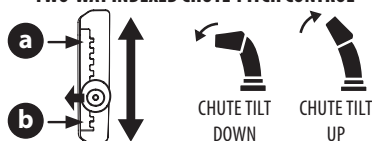

Figure 57
To raise or lower the upper chute, move the lever forward or backward (Figure 57).
- **To Reduce the Distance Snow is Thrown:** Move the lever forward to tilt the upper chute down (Figure 57).
- **To Increase the Distance Snow is Thrown:** Move the lever rearward to tilt the upper chute up (Figure 57).
- **To Reduce the Distance Snow is Thrown:** Disengage lever from the current chute setting. Move the lever forward to tilt the upper chute down to the desired setting (a) (Figure 57).
- **To Increase the Distance Snow is Thrown:** Disengage lever from the current chute setting. Move the lever rearward to tilt the upper chute up to the desired setting (b) (Figure 57).